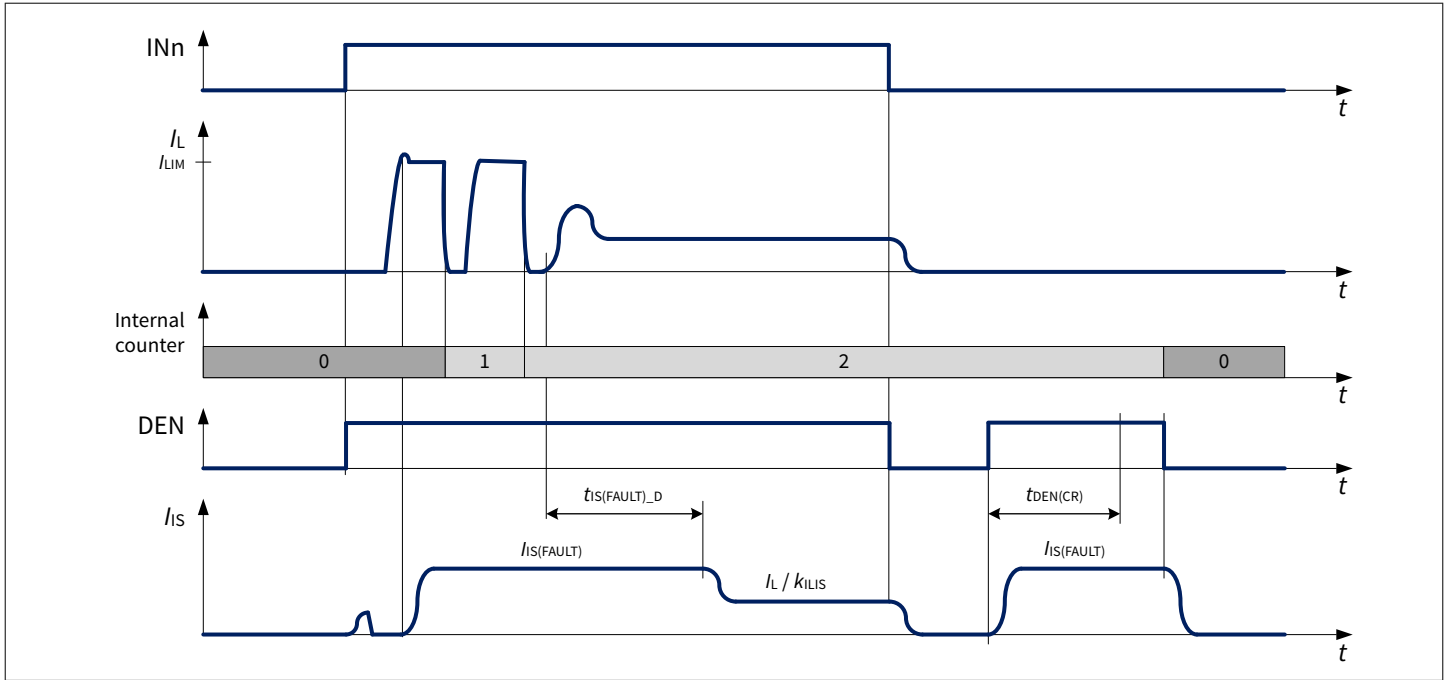

Figure 28 $I_{IS(FAULT)}$ at load switching
- If the channel is ON and the number of restarts is less than “ $n_{RESTART(CR),TYP}$ ”, the current $I_{IS(FAULT)}$ is provided for a time $t_{IS(FAULT)_D}$ after the channel is allowed to restart, and thereafter $I_{IS} = I_L/k_{ILIS}$ (as shown in Figure 28). During a restart cycle the current $I_{IS(FAULT)}$ is provided each time the channel diagnosis is checked.